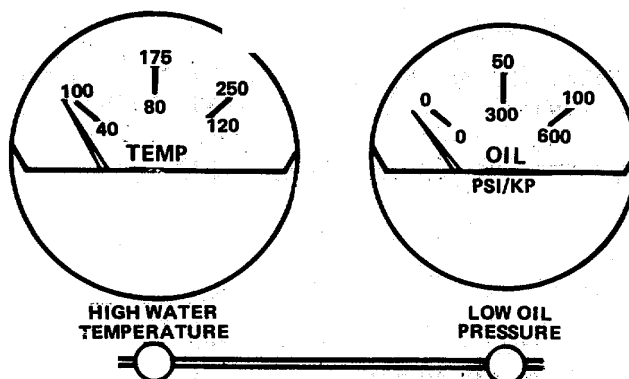

FIGURE 3-30. Off/Run Position.
- (3) Observe the water temperature and oil pressure meter gauges and indicators for proper indications. Coolant temperature must not exceed 104°C (220°F). Minimum oil pressure required are 10 psi at idle and 30 psi at full speed and load (FIGURE 3-30).